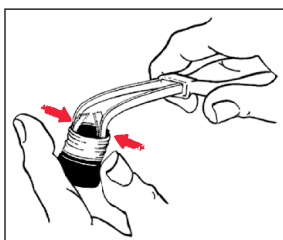

Fig. 1
1. For reduction of the spring pressure push slightly both leaves of spring together (see Fig. 1). Points of pliers must be inserted between the baton spring guide cap side and spring leaf.